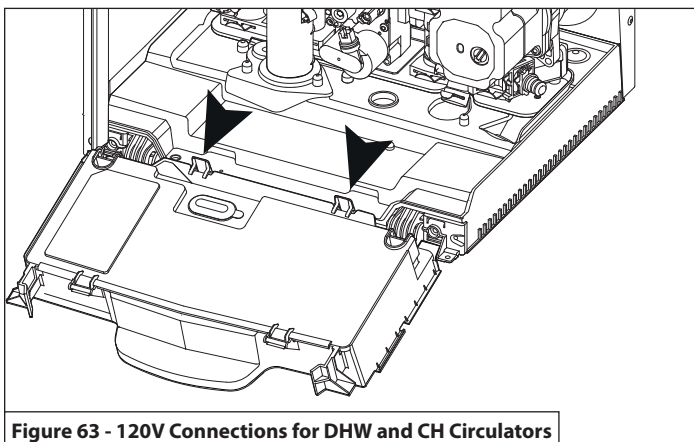

Figure 63 - 120V Connections for DHW and CH Circulators
5. Disconnect the two clips See Figure 63